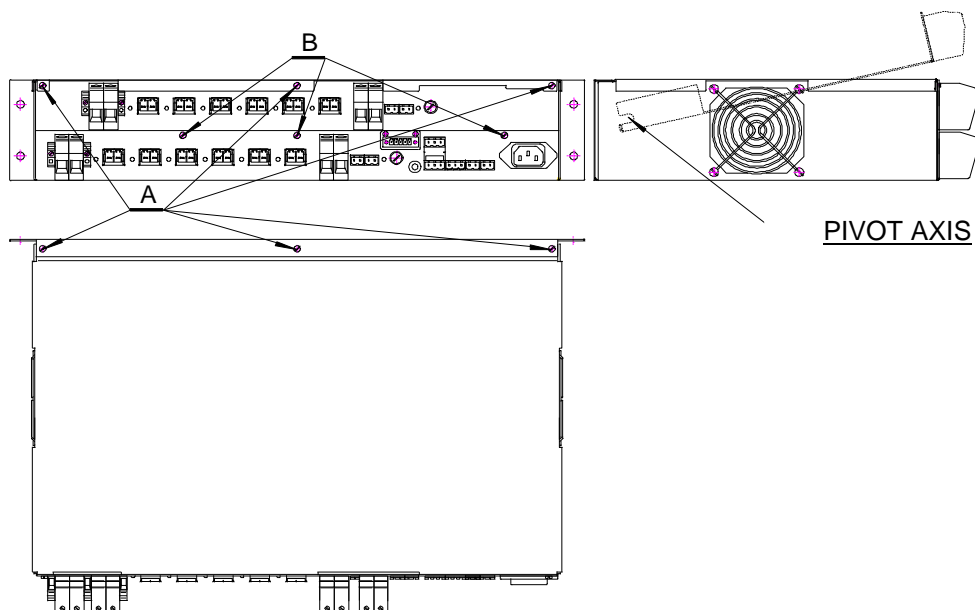

Fig.7. Access to the fuses in the 2U power supply version
The 2U height Fig. 7. power supply has two sets of sockets and fuses – the upper one and the lower one. To access the upper fuses set, the screws that fix the upper shield (A), should be unscrewed. In order to access the lower set of fuses, the screws (B) needs to be unscrewed and the upper set of fuses and sockets needs to be raised.